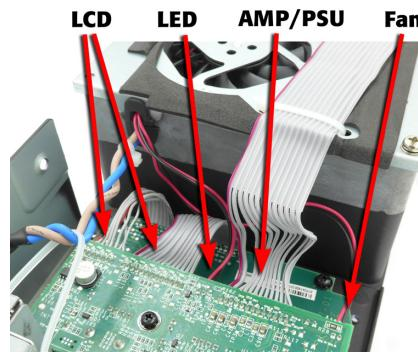

Figure 6.2.2 - Ribbon connectors.
4. Disconnect the 3 ribbon connectors (LED, AMP/PSU, and Fan) from the input/DSP board as shown in Figure 6.2.2. The ribbon cables going to the LCD board can remained connected.
16. Connect the 3 ribbon connectors as shown in Figure 6.2.2. Verify that the fan and front LED 2-conductor wires are connected to the appropriate locations.
2. Disconnect all 5 ribbon cables from the input/DSP board (Figure 6.2.2).
7. Connect all 5 ribbon cables back to their original locations on the input/DSP board as shown in Figure 6.2.2.